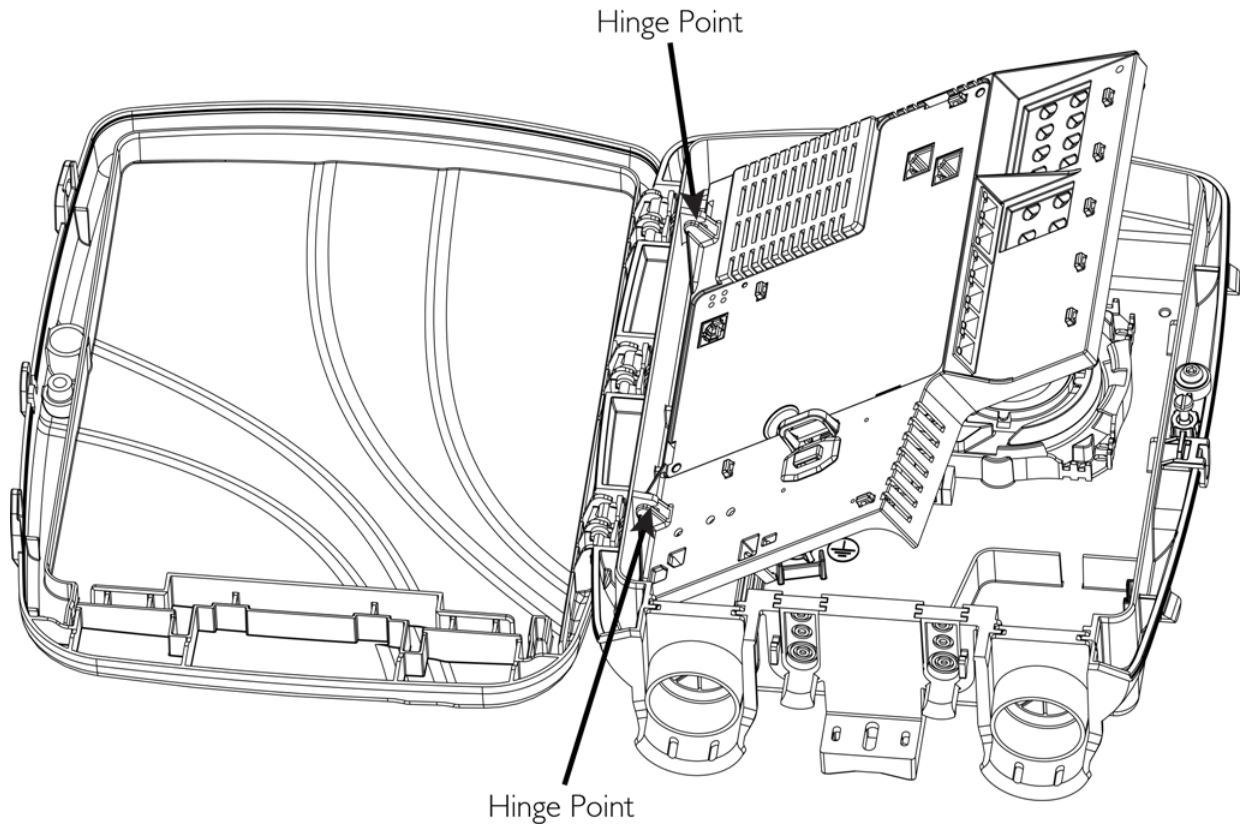

Figure 8: Snapping the gateway into the Enclosure
2. Align the tabs of the gateway with the hinges and snap into place. Refer to Figure 8.